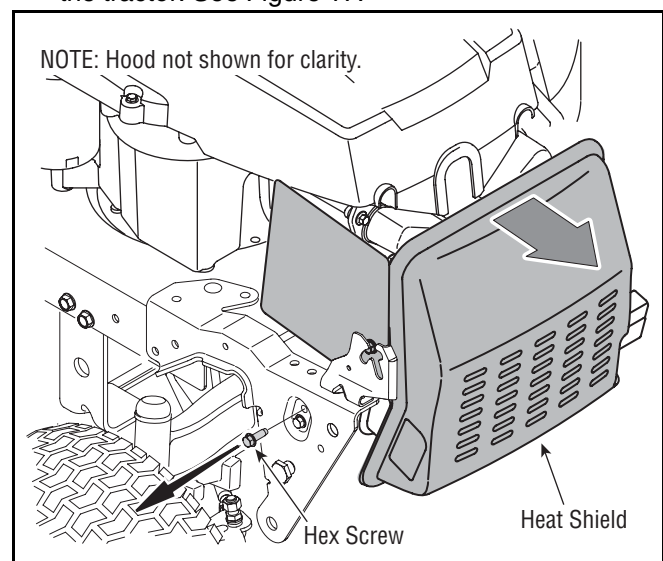

Figure 17
2. Remove the upper hex screws that secure the heat shield in place, on both the left side and right side of the tractor. See Figure 17.